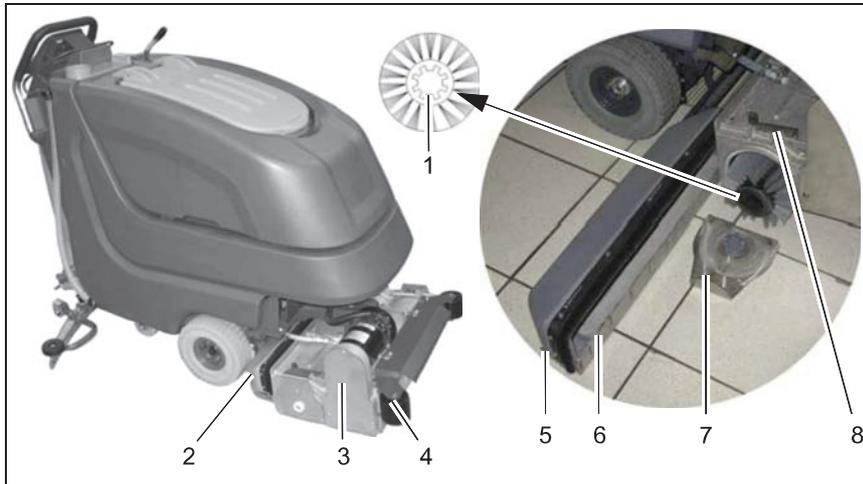

Fig.11
Clean dirt hopper (Fig. 11/2) at daily intervals or as required.
Remove dirt hopper from the right machine side (seen in direction of travel). Use quick-release (Fig. 11/5) to loosen feed inlet (Fig. 11/6) and clean dirt hopper.
1. Release brush seating (Fig. 11/7) by locking lever (Fig. 11/8).
1. Insert brush into brush deck and let it catch (brush tothing (Fig. 11/1)) as to point to the outside).
Check deflector rollers (Fig. 11/4) at weekly intervals and replace if required.